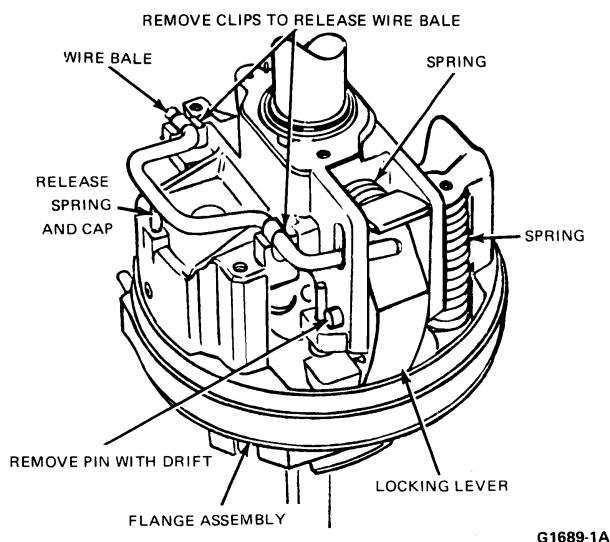

FIG. 24 Removing Wire Bale and Tilt Locking Lever
1. Remove the spring clips holding the wire bale which acts as a release lever for the locking lever. Remove the wire bale (Fig. 24).